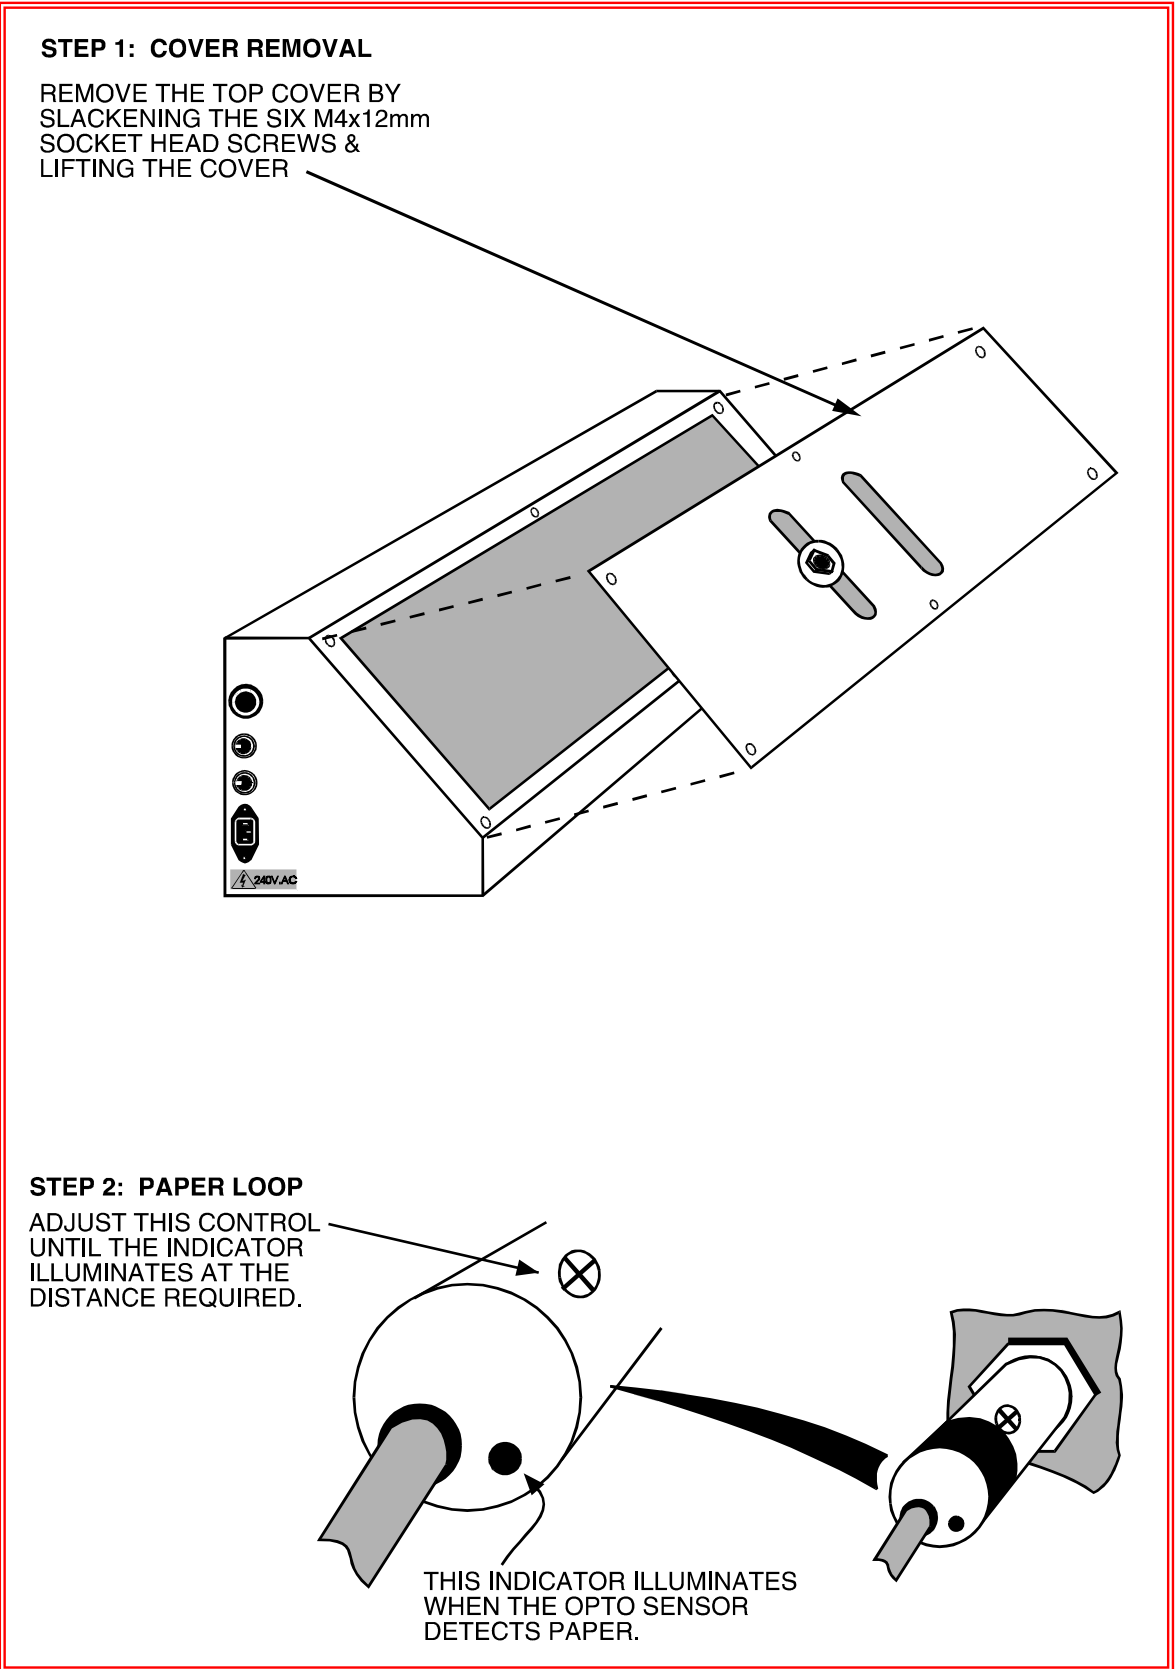

Fig 1.4 Paper Detection Range Adjustments
- With the mains power disconnected, remove the top cover as shown in Fig 1.4.